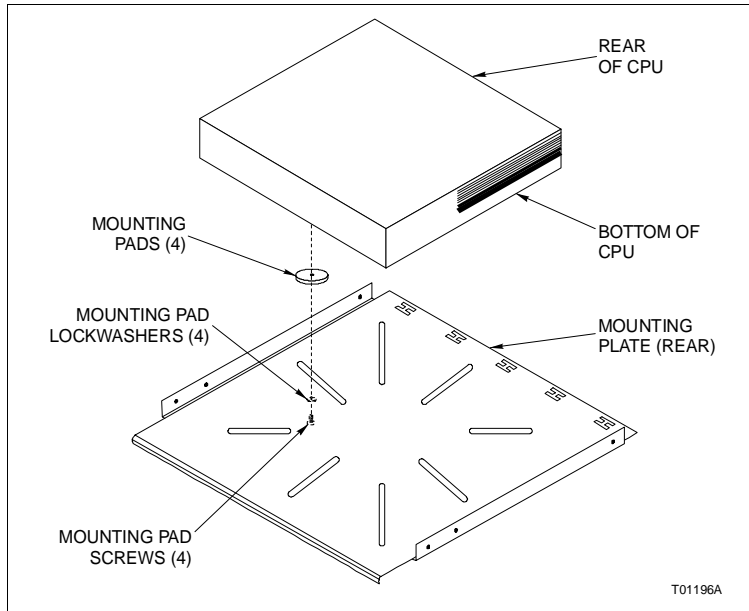

Figure PR21-4. Mounting CPU on Mounting Plate (Typical)
- 7. Place the CPU on the mounting plate so that the screw holes in the mounting pads properly align with the slots in the mounting plate (Fig. PR21-4).